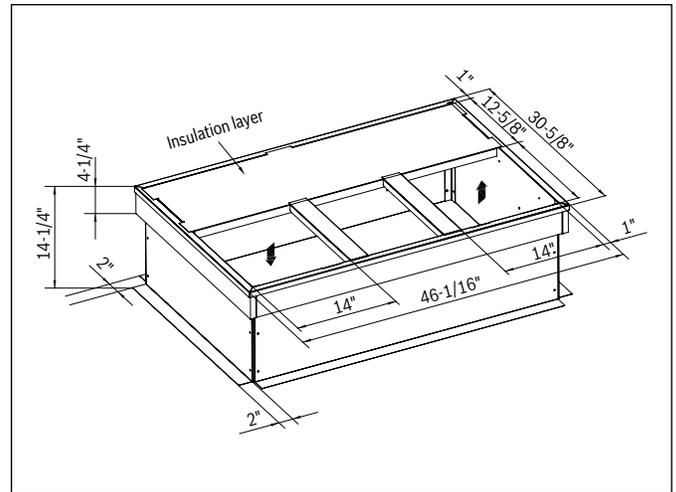

Figure 17 Roof Curb Dimensions
1. Remove the sheet metal screws securing the supply air cover and the sheet metal screws securing the return air cover from the base of the unit. Remove the covers from the base. See Figure 17.
2. Place the covers over the horizontal supply and return openings (painted side out). Align the screw holes, and secure using the same screws removed in step 1. See Figure 17.